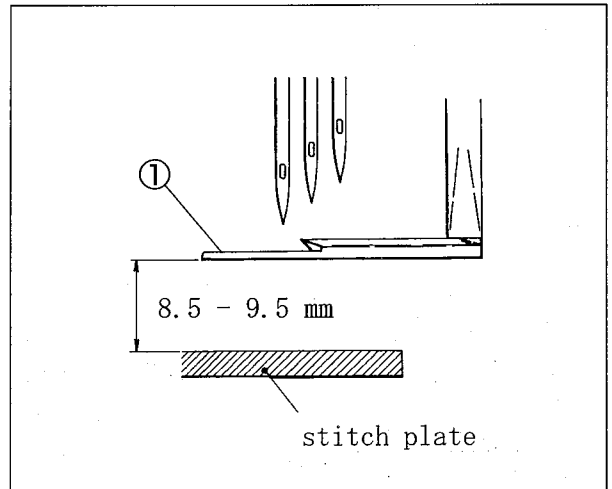

Fig. 6-9
- (4) Make the height from the top of the stitch plate to the bottom of the spreader ① to 8.5 - 9.5 mm. Then tighten the screw ③ securely. (Fig. 6-9 and 6-10)